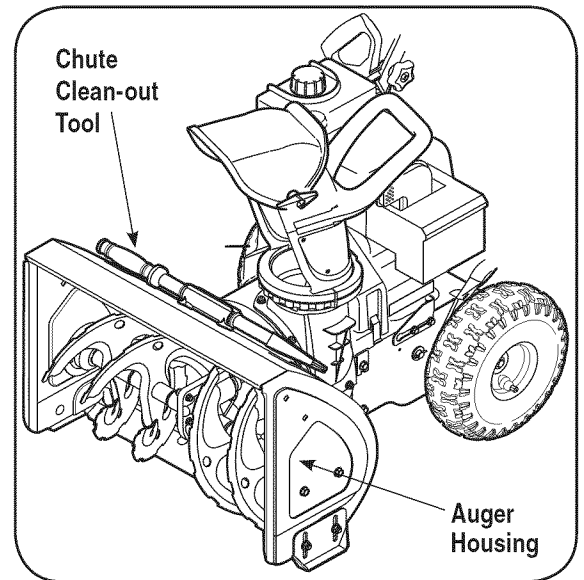

Figure 9
5. Re-fasten the clean-out tool to the mounting clip on the auger housing. You can start operating your snow thrower now. See Figure 9.